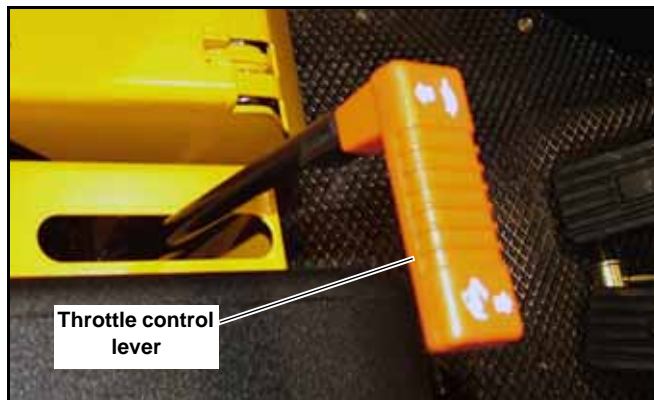

Figure 3-4
- A. **Throttle control lever (Figure 3-4)** — A cable is linked to engine throttle for controlling engine speed. Move lever forward to increase engine rpm, move lever rearward to decrease engine rpm. **NOTE:** Always operate the cutting units at full engine RPM.